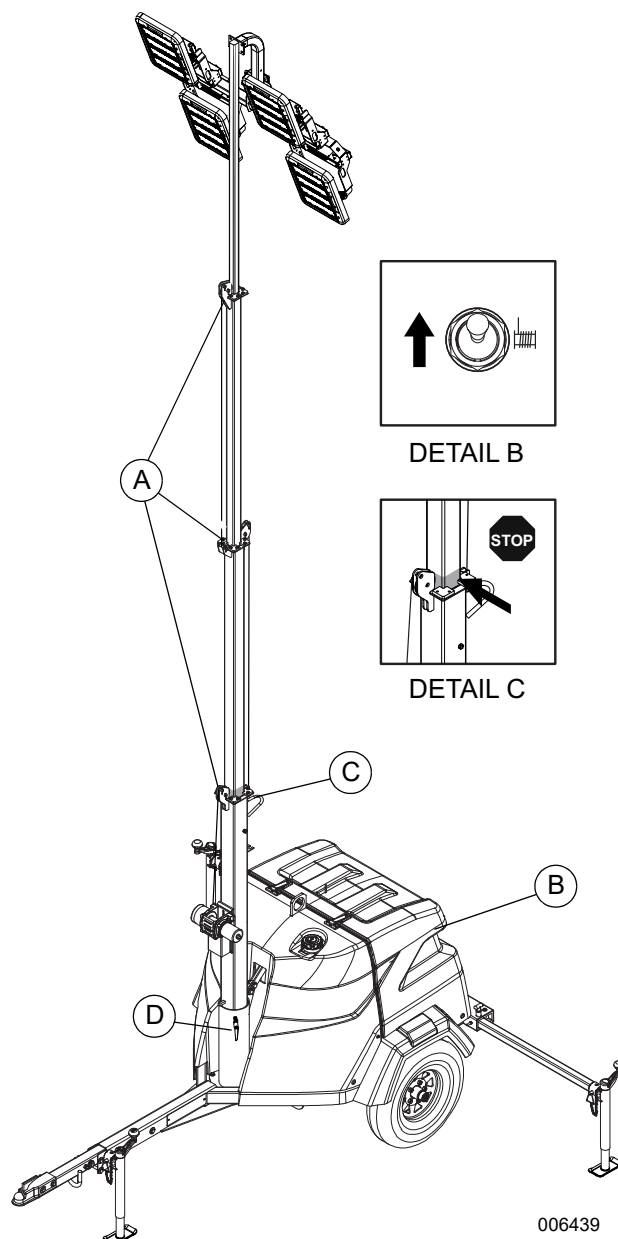

Figure 3-3. Switch & Pulley Locations - Electric Winch
2. See Figure 3-3. Inspect the mast cables for excessive wear or damage. Verify the cables are properly centered in each pulley (A). Inspect the electrical cord for damage.